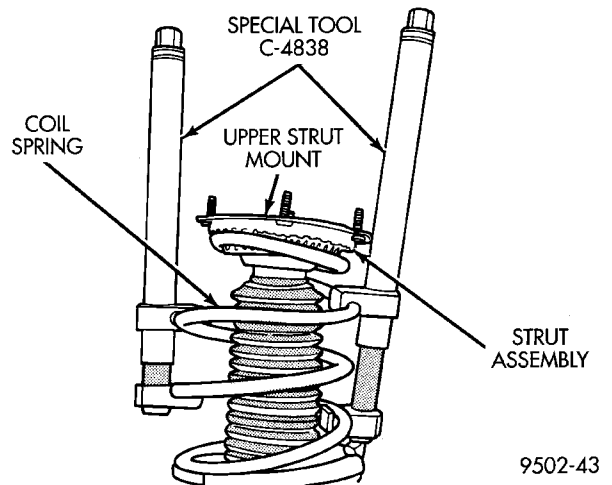

Fig. 26 Compressing Strut Assembly Coil Spring
(3) Position Spring Compressors, Special Tool C-4838 on the strut assembly spring (Fig. 26). Compress coil spring until all load is removed from upper strut mount assembly.